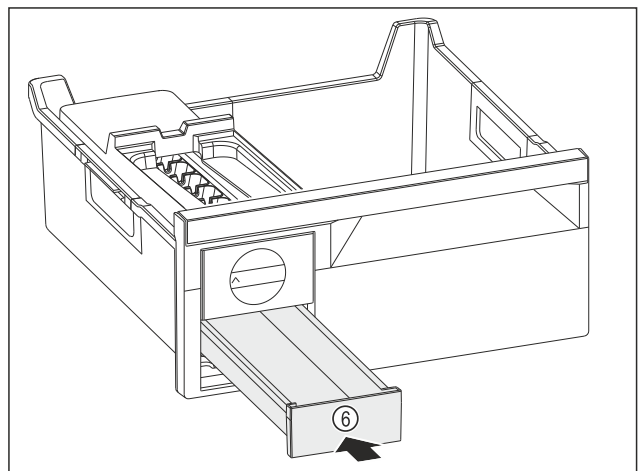

Fig. 202
- ▶ Insert the ice cube drawer Fig. 202 (6).